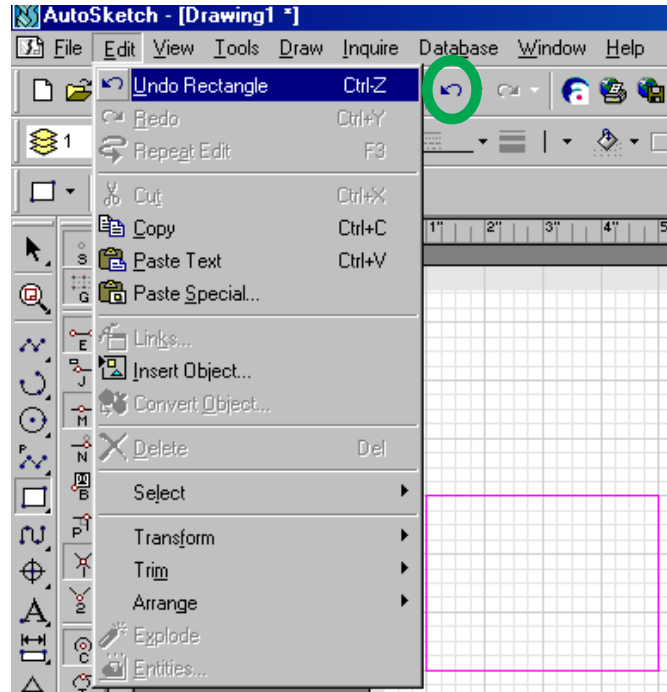
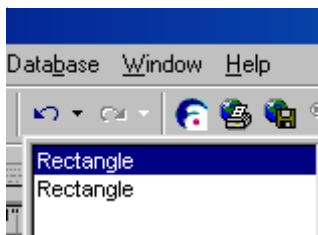

Figure 11
Figure 12
9. A drawing area will appear on the screen which will look like the one in **figure 11**. If at any time you make a mistake, and want to remove an object from your screen open the edit menu and click on the undo command. This same command is in your menu and looks like a curved arrow. It is circled in green in the tool bar covering the top of the screen in **figure 11**. The undo command will let you clear many previous actions. In the undo menu, you can keep clicking undo to clear the previous work or a drop down menu will appear and you can clear several things at once as shown in **figure 12**.